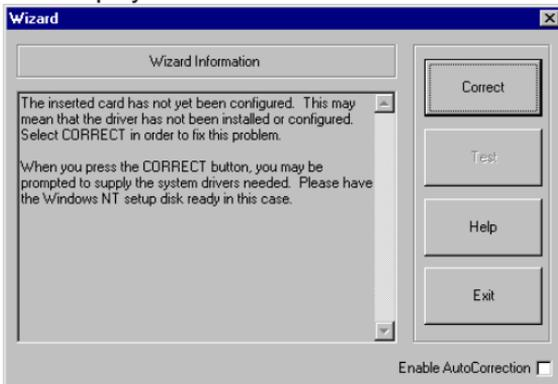

Figure 5.1 SystemSoft Wizard
2. If you have installed SystemSoft CardWizard For Windows NT™, this utility will recognize **ENW-3502-FC** and request to install the driver for it. In this situation, you click the **Correct** button, the Figure 5.1 displayed.